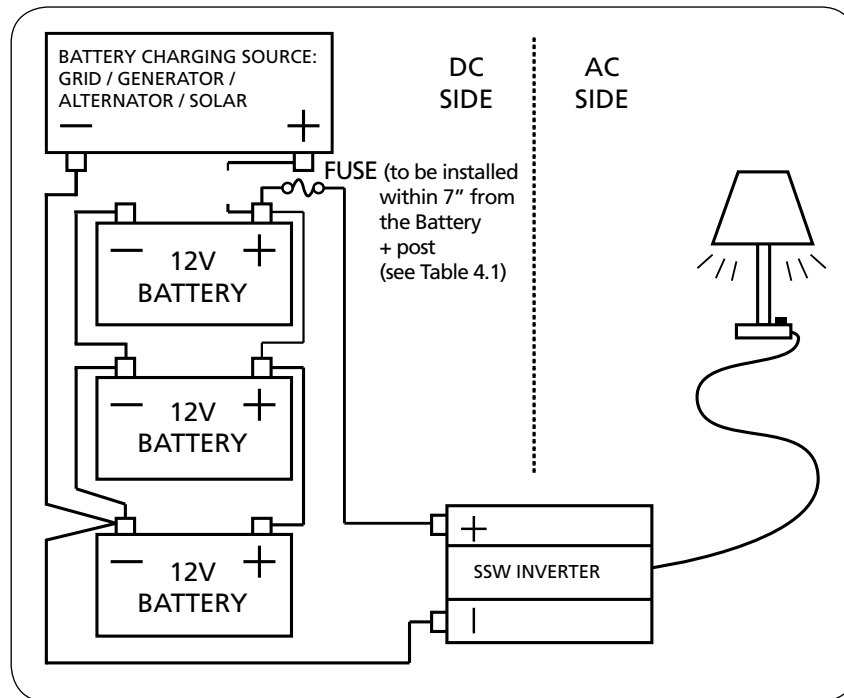

Fig 4.2 Connecting to a 12V Battery Source
The inverter will provide you nominal 115 VAC when powered by a 12 VDC source such as is found in a vehicle or multiple battery configurations as shown in Fig 4.2. **This manual does not describe all of the possible types of battery configurations, battery charging configurations and battery isolation configurations.**
For normal operation of the inverter, the DC power source must provide $>11.0 \pm 0.3V$ and $< 15.3 \pm 0.3V$ and the required current. This DC power source must be a well-regulated DC power supply or alternator and deep cycle battery system typically found in vehicles and marine crafts. The DC power source may also be two or more 12 volt batteries connected in parallel. On larger applications, the power source may be several batteries connected in parallel as shown in Fig 4.2.
It is mandatory to install appropriate size of external DC Fuse as close to the Battery Positive Post as possible, preferably within 7 inches to protect against fire hazard due to short circuit along the battery cable run (See Fig 4.2). A battery is an unlimited current source that can supply thousands of Amperes of current under short circuit conditions. If a short circuit occurs in the cable run at a point between the battery and the inverter, the section of the cable from the battery to the point of short circuit will be fed with thousands of Amperes of current, the section of the cable will overheat / melt and is likely to cause fire. It is, therefore, recommended that the fuse / fuse assembly should have Ampere Interrupting Capacity (AIC) of at least 10,000 A. Class-T Fuse / Fuse Holder made by various manufacturers or Marine Rated Battery Fuse (MRBF) made by Eaton Bussmann and distributed by Samlex America / Blue Sea Systems may be considered.
5. Install a fuse holder close to the Positive (+) terminal of the battery (or other DC source), preferably within 7" of the terminal (see Fig 4.2). When Marine Rated Battery Fuse (MRBF) and associated Fuse Block recommended at column 5 of Table 4.1 are used, the fuse will be installed on top of the battery Positive post/stud.